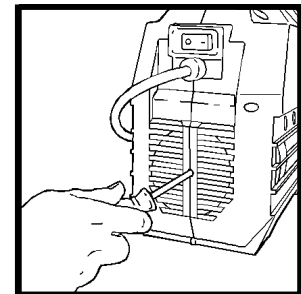

Figure 2
**⚠ WARNING** This is done by disconnecting the power cord and turning the motor shaft by inserting a large blade straight slot screw driver into the slot located in the shaft at the rear of the unit (Figure 2). Turn the shaft two or three times to free any seals that might be stuck.